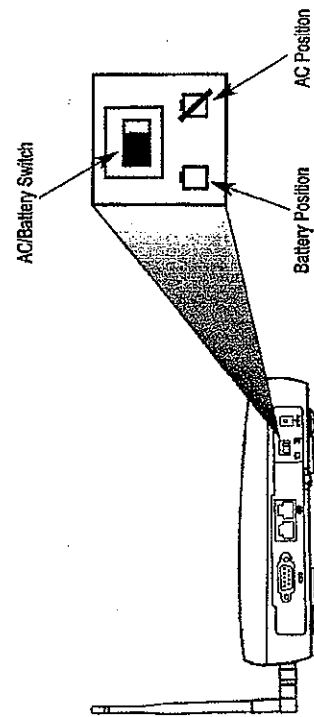

Figure 4 - SX5 AC/Battery switch.
5. Turn the AC/Battery switch to battery operation - see Figure 4.
The unit will not automatically switch from AC to battery upon loss of AC power. The AC/Battery switch must be changed manually - see Figure 4. Battery power will provide up to three hours of standby and 90 minutes of talk time, depending on the SX5 model.
HINT: If there are no batteries in the SX5, it will only power on if the AC/Battery switch is in the AC position - see Figure 4.